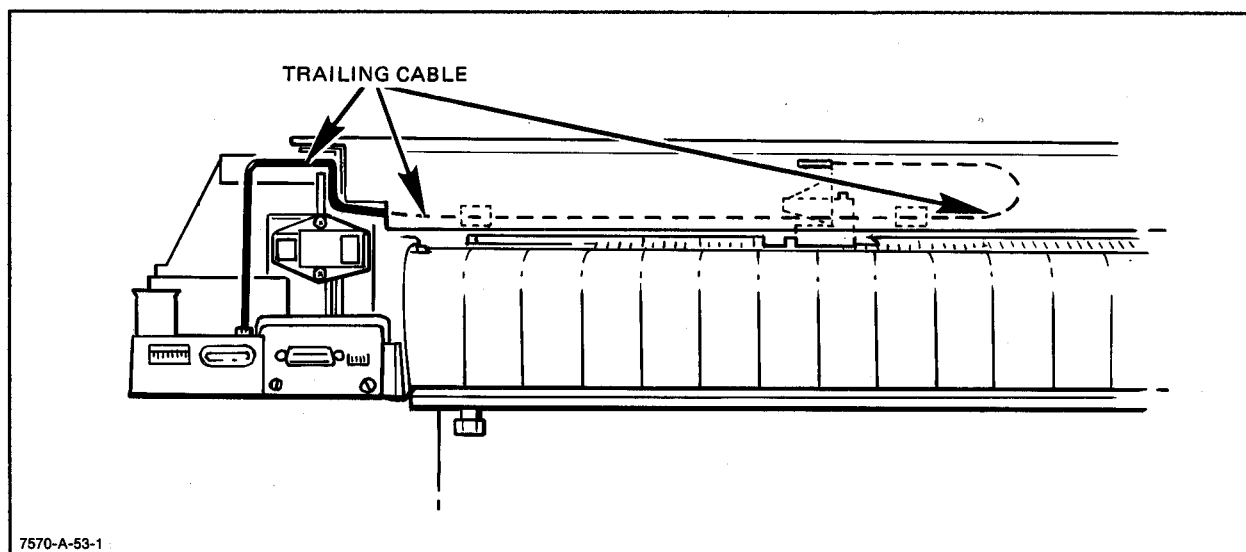

Figure 6-6. Trailing Cable Installation
- b. Route the trailing cable correctly and connect it to the PCA. See Figure 6-6. Trailing Cable Installation.